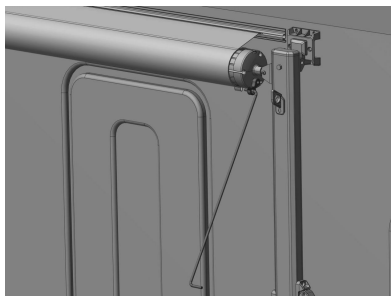

Figure D3
4.1.2 Hook the ratchet lever on the end cover of the roller with pull wand, gently move the ratchet lever in the direction of the arrow, and switch the pawl direction to "open" (Figure D3).